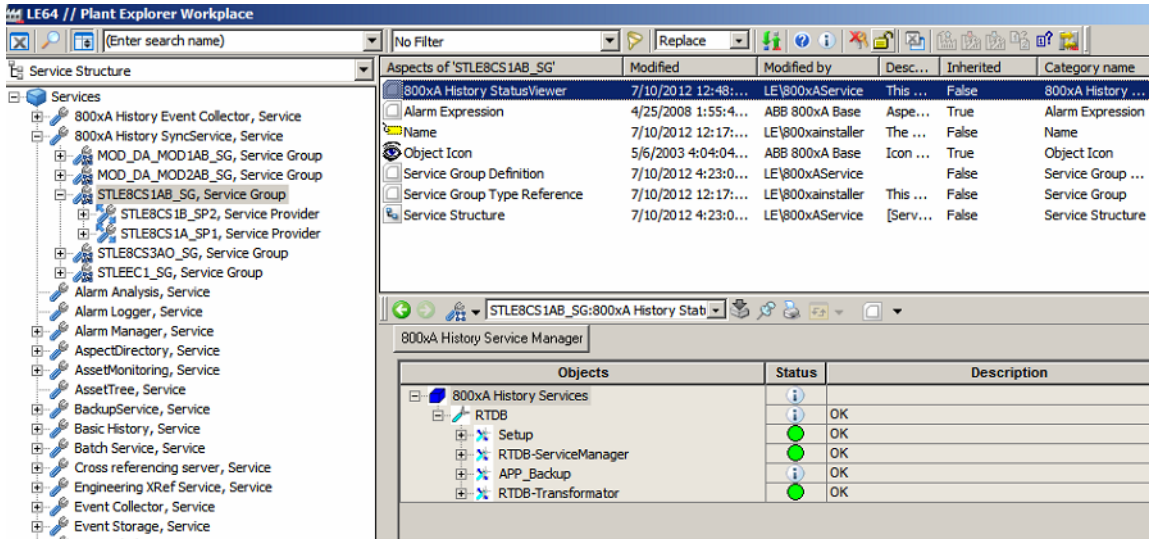

Figure 37. 800xA History Status Viewer
5. Select the **800xA History StatusViewer** aspect as shown in Figure 37.
5. Select **800xA History StatusViewer** as shown in Figure 37.